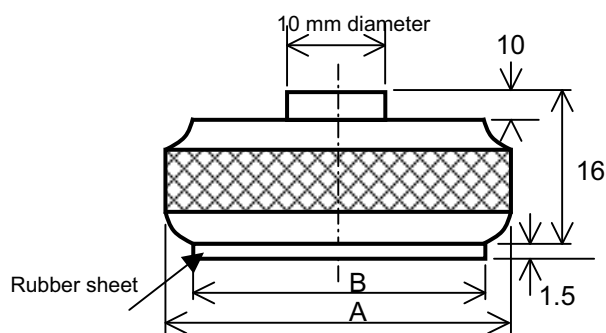

Fig 1-3-3
- (b) Compression condition: Time 3 sec, Tool diameter: 16 mm in diameter (refer to Fig 1-3-3)
- (b) Compression condition : Time 3 sec, Tool radius: 30 mm in diameter (refer to Fig 1-3-3)